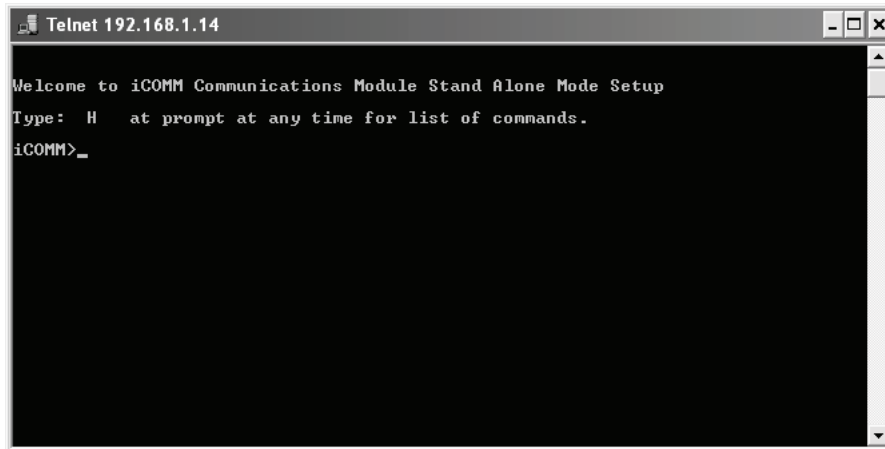

Figure 27
- 9 A command window (see Figure 27) will appear with the following text: